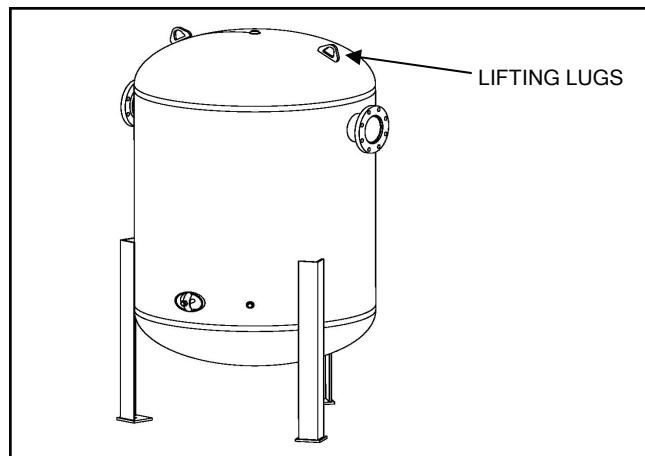

Figure 1
- Follow safe handling procedures when transporting the tank. Use lifting lugs whenever possible (see Figure 1).